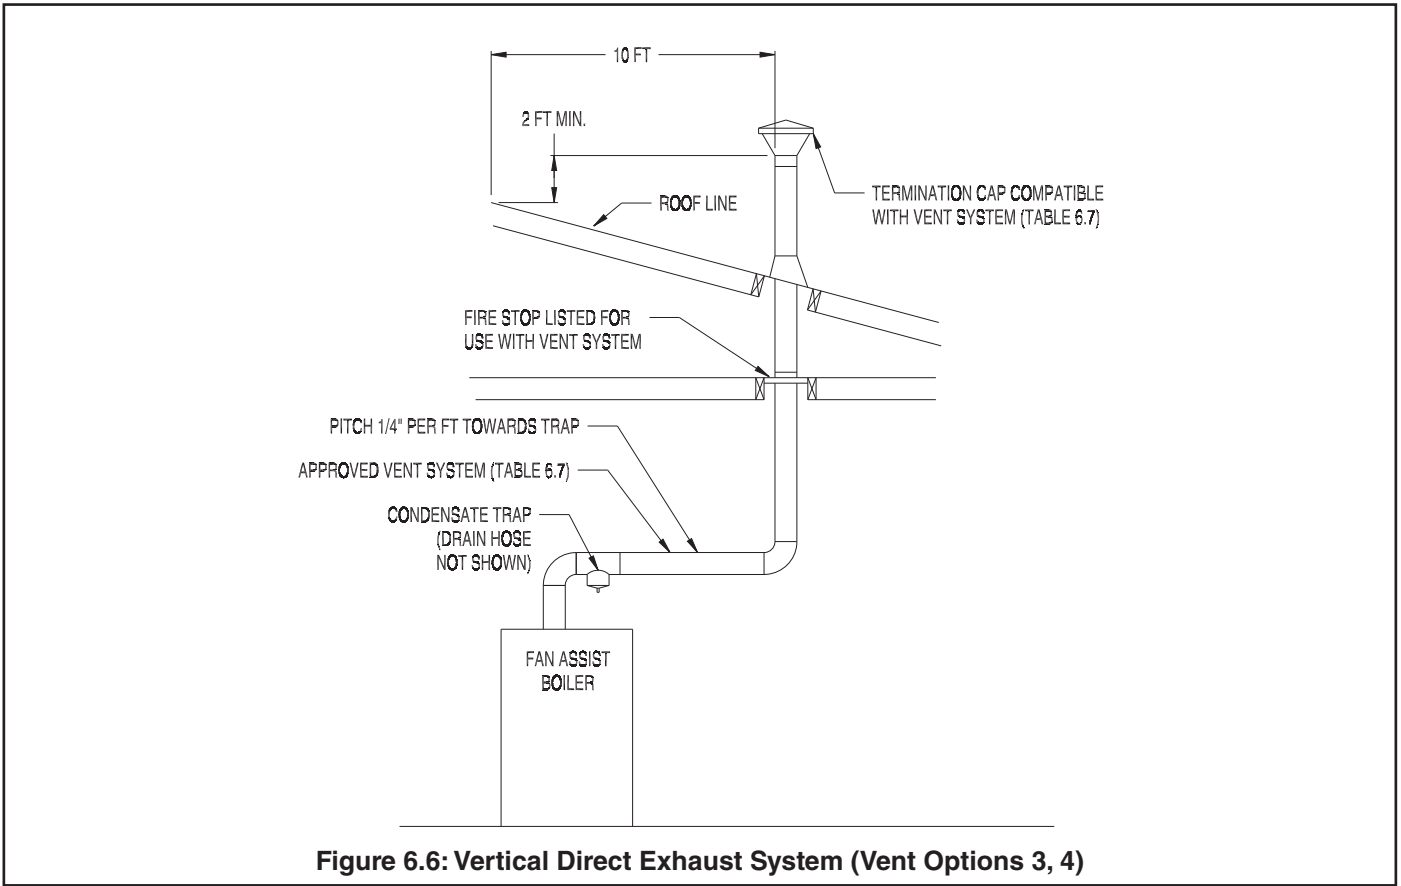

Figure 6.6: Vertical Direct Exhaust System (Vent Options 3, 4)
7. Vertical Vent Terminal Locations (Vent Options 3, 4) - The lowest discharge opening on the cap must be at least 2 feet above any object located within 10 feet. (Figure 6.6)